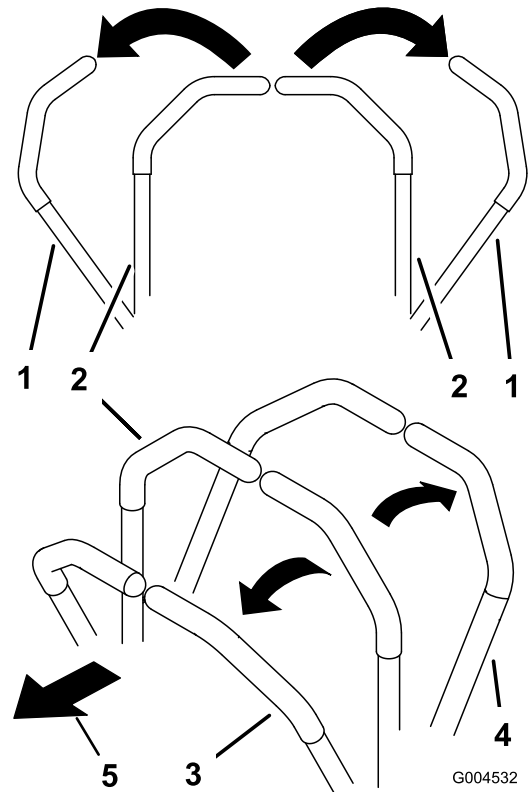

Figure 23
- To move straight rearward, slowly pull the motion-control levers rearward (Figure 23).
- To turn, slow the machine by pulling back on both levers and then push forward on the lever on the opposite side from which you want to turn (Figure 23).
- To move straight forward, slowly push the motion-control levers forward (Figure 23).